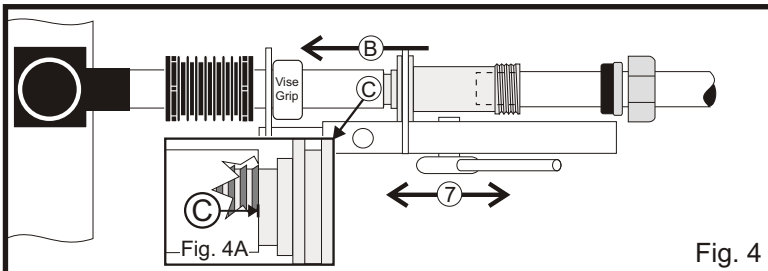

Fig. 4
7. Operate the ratchet to advance the spigot into the PE pipe (note the direction of advancement "B" in Fig. 4). Stop spigot advancement when the end of the PE pipe covers the last barb on spigot as shown in the cutaway view Fig. 4A.